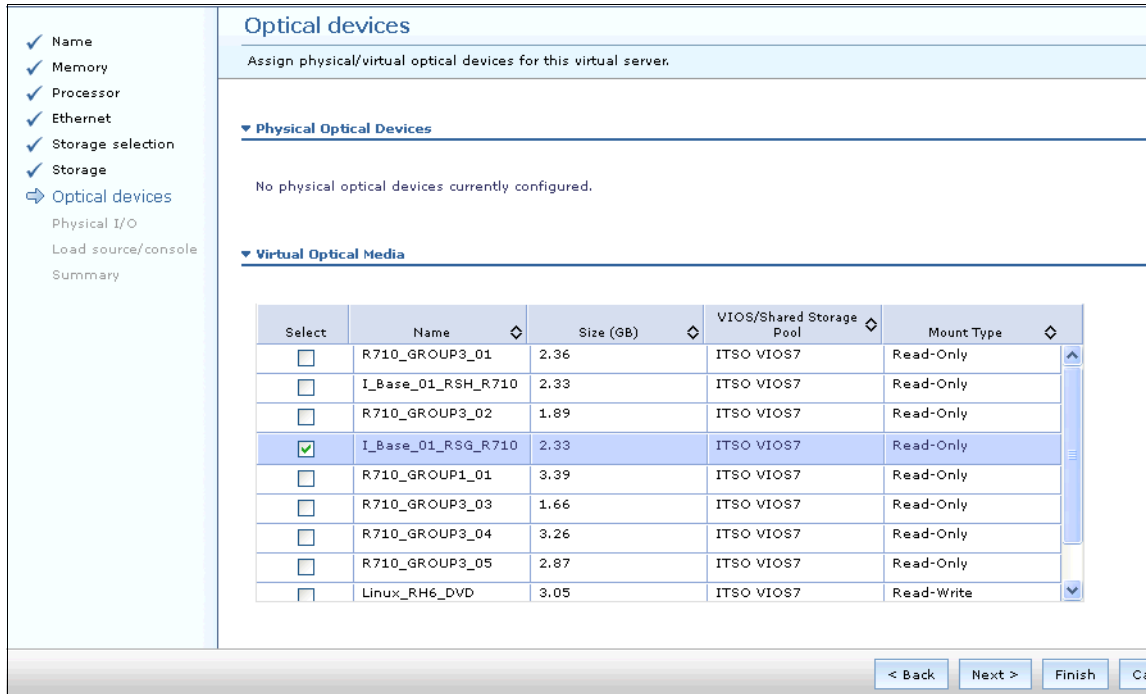

Figure 11-9 Creating a Virtual Server: Selecting Optical devices panel
- As shown in Figure 11-9, in the Optical devices panel, if you plan to use an external optical device or the VIOS virtual media library, select the applicable device. Multiple ISO files can be selected for sequential access. In our example, we are selecting the base ISO for V7R1 TR6, which is the minimum supported V7R1 Technical Release for the p270. Click **Next** to continue.